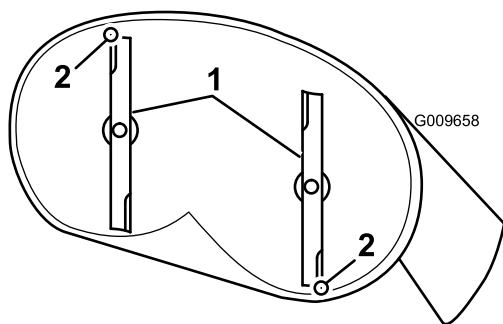
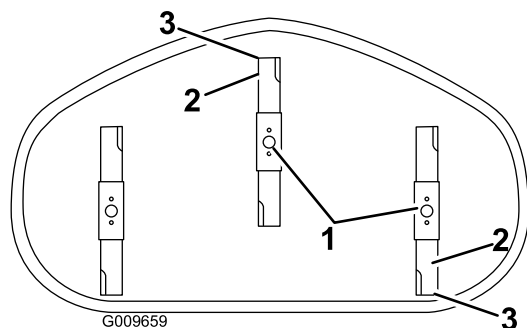

Figure 61
Figure 62
4. Carefully rotate the blades so they are facing front to rear (Figure 61 and Figure 62).
5. Measure from the tip of the front blade to the flat surface, and the tip of the rear blade to the flat surface (Figure 61 and Figure 62).
- D. After adjustment, check the front-to-rear slope again, continue adjusting the nut until the front blade tip is 1.6 to 7.9 mm (1/16 to 5/16 inch) lower than the rear blade tip (Figure 61 and Figure 62).
- A. Loosen the adjustment nut on the left adjusting rod (Figure 62).